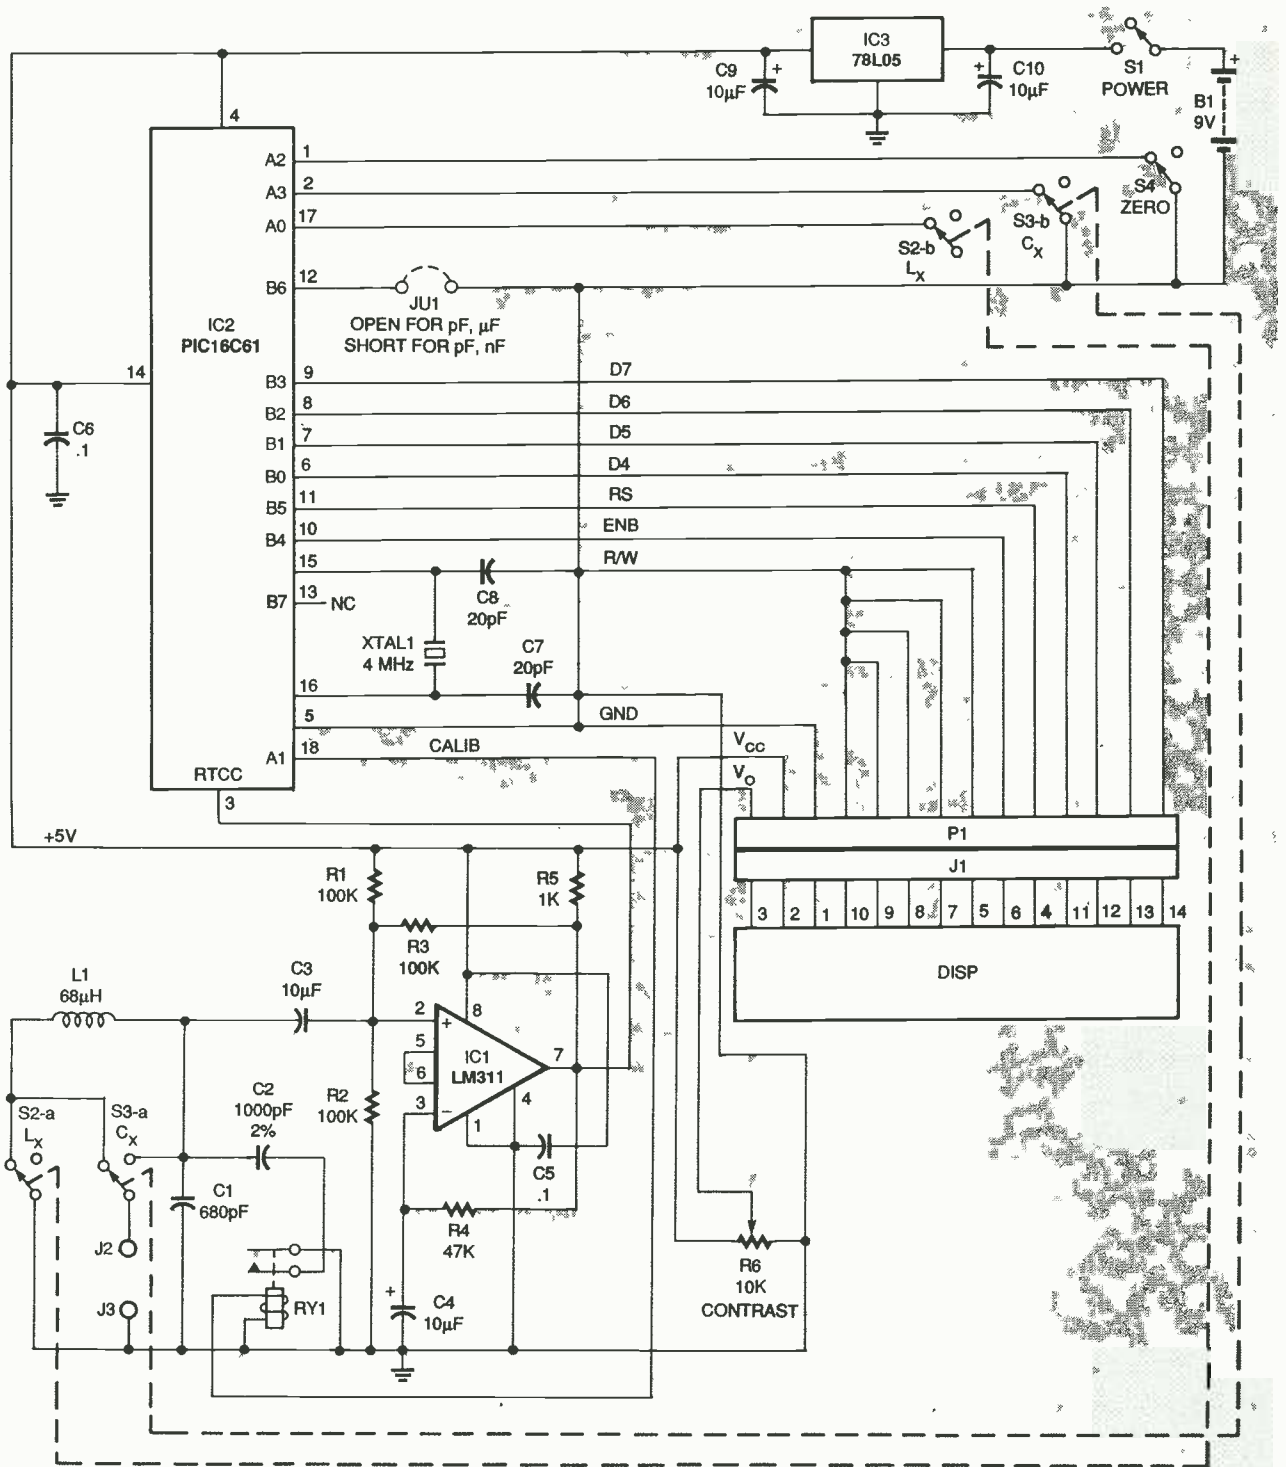

FIG. 1—THE L/C METER SCHEMATIC. The oscillator built around IC1 is the heart of the circuit. IC2, a PIC16C61 microcontroller, is its brains.
The heart of the L/C meter is the oscillator circuit on the left side of the schematic in Fig. 1. The oscillator's function can best be visualized by assuming that the output of the LM311 voltage comparator is a square wave at the resonant frequency of the tank circuit formed by L1 and C1. The square wave is applied to the tank circuit through R3 and AC-coupling capacitor C3. The tank circuit filters out the fundamental sine wave, which is then applied to the input of the voltage comparator and causes a square wave to be generated at its output, thus sustaining oscillation.
The downconverter block diagram is shown in Fig. 1. Signals from the RF input are fed to low-noise RF amplifier Q1, which boosts the antenna signal and feeds it to mixer transistor Q2. There the amplified signal is mixed with the output of the tuneable voltage-controlled local oscillator Q5 to an intermediate frequency (IF) of 60 MHz. The IF signal is fed from the mixer to an IF pre-amplifier stage.